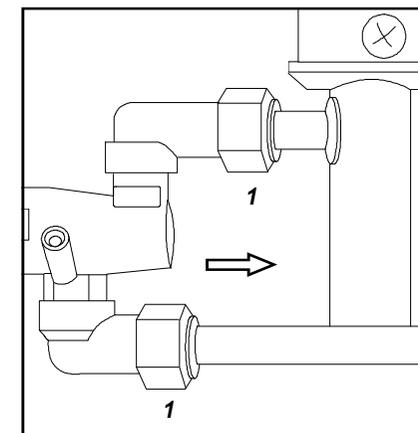

FIG.19 (REPLACEMENT DU ROBINET DE GAZ)
- ENLEVER LE ROBINET DES RACCORDES DE JONCTION AUX CANALISATIONS DU GAZ (FIG.19-RÉF.1);